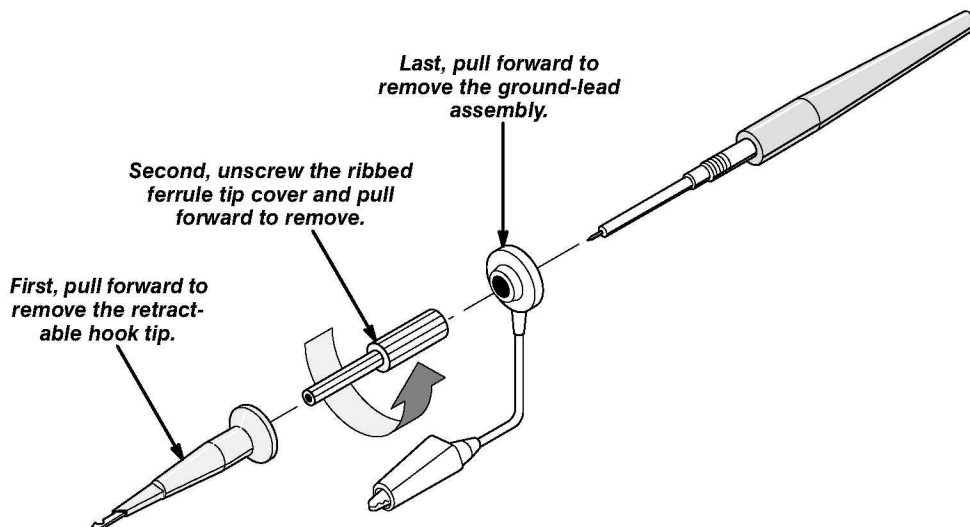

Figure 5-5: Exposing the Inner Probe Tip
- a. *Expose the Inner Probe Tip:* Follow the instructions in Figure 5-5.
- b. If substep 2b was passed, the probe adjustment is finished. Reverse the instructions in Figure 5-5, page 5-12, to reinstall the retractable hook probe tip.
- The probe tip should be exposed from the procedure *Measure Probe Bandwidth*. If not, follow the instructions in Figure 5-5 to expose the probe tip.
3. *Disconnect the hookup:* Unplug the probe from the BNC-to-probe tip adapter. Reverse the instructions in Figure 5-5, page 5-12, to reinstall the retractable probe tip.